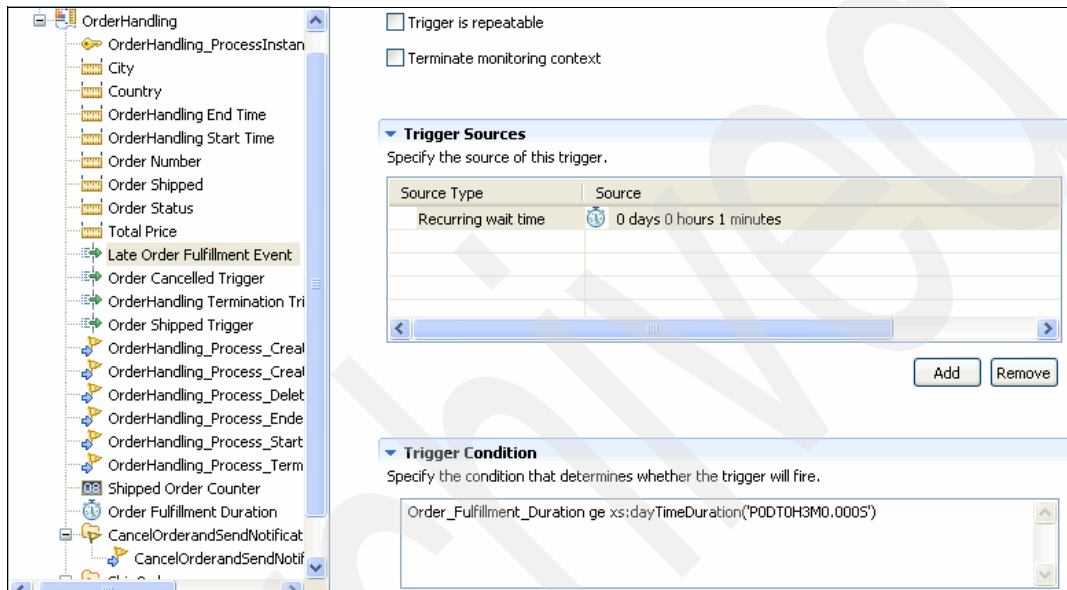

Figure 8-89 Adding the Late Order Fulfillment Event trigger
37. Return to the OrderHandlingMM view (Figure 8-89) and add a new trigger: